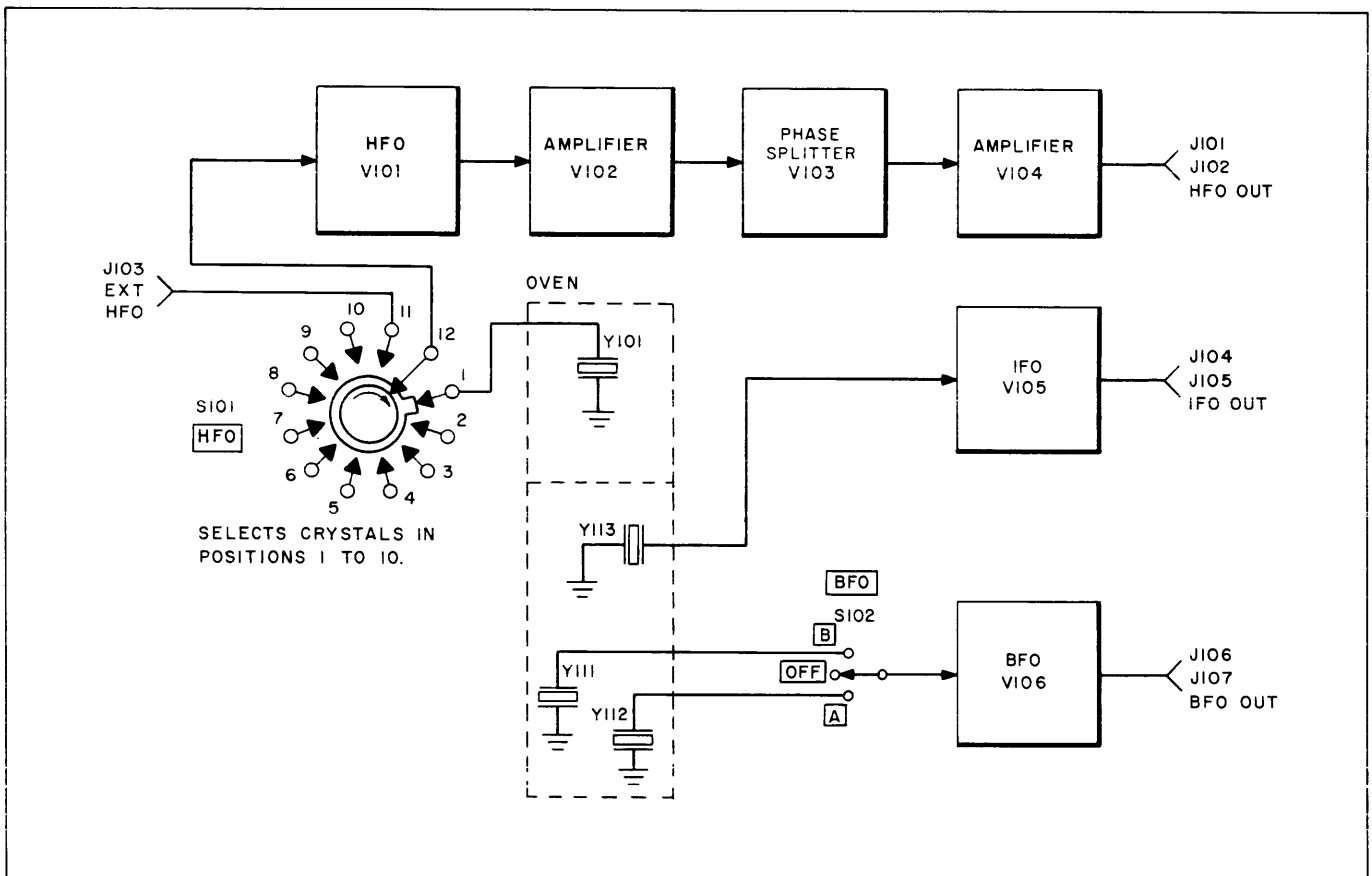

Figure 4-1. Block Diagram of Model TRX-1
a. FUNCTIONAL DESCRIPTION. (See figure 4-1.) - The Model TRX-1 Oscillator is composed of three independent oscillators which provide BFO, IFO, and HFO outputs. Although specifically designed for use with the GPR-92 Receiver, it can be used as a master oscillator for any transmitter or receiver. The actual frequencies generated by this oscillator depend on the type crystals inserted into the various circuits. The entire complement of crystals found in this unit are enclosed in a temperature-regulated oven which stabilizes crystal operation thus producing extremely stable output frequencies.